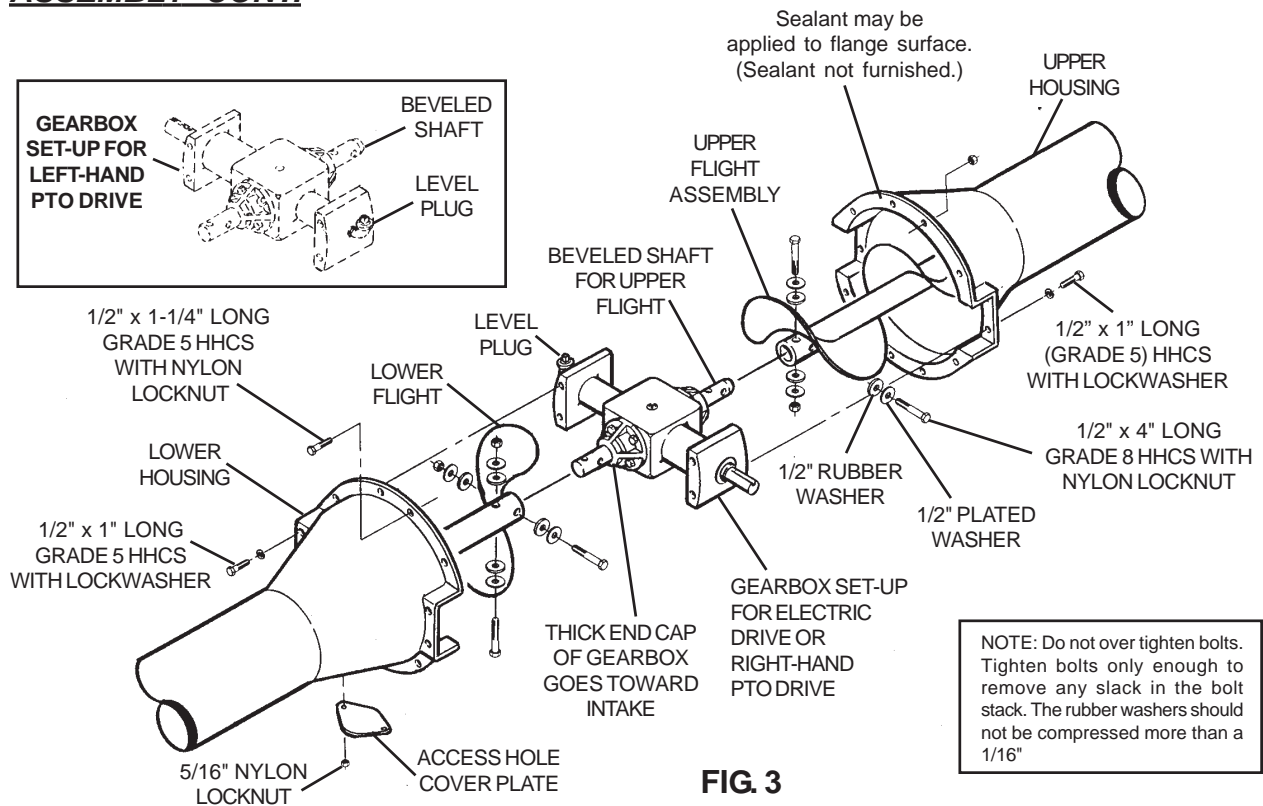

FIG. 3
1. Determine if you want the gearbox input shaft on the left or right side of the auger. The gearbox is shipped so the input shaft will be on the right side of the auger when assembled in the drive housing. PTO drives can be driven from either the right or left hand side of the auger. Fig. 3 on page 17 shows the gearbox in the right hand drive position. Electric drives can **ONLY** be powered from the right hand side. The gearbox **MUST** be mounted as shown in Fig. 3 on page 17. If you do decide to install the drive on the left side of the auger, the street el must be rotated so it is pointing up when installed into the drive housings.
3. Connect the gearbox output shaft (with bevel) to the upper flight assembly using two 1/2" x 4" long (grade 8) hex head capscrews, four 1/2" rubber washers, four 1/2" washers and two stover type locknuts. Tighten the locknuts only enough to slightly compress the 1/2" x 1/4" thick rubber washers. **DO NOT** compress the washers more than 1/16". Fig. 3.